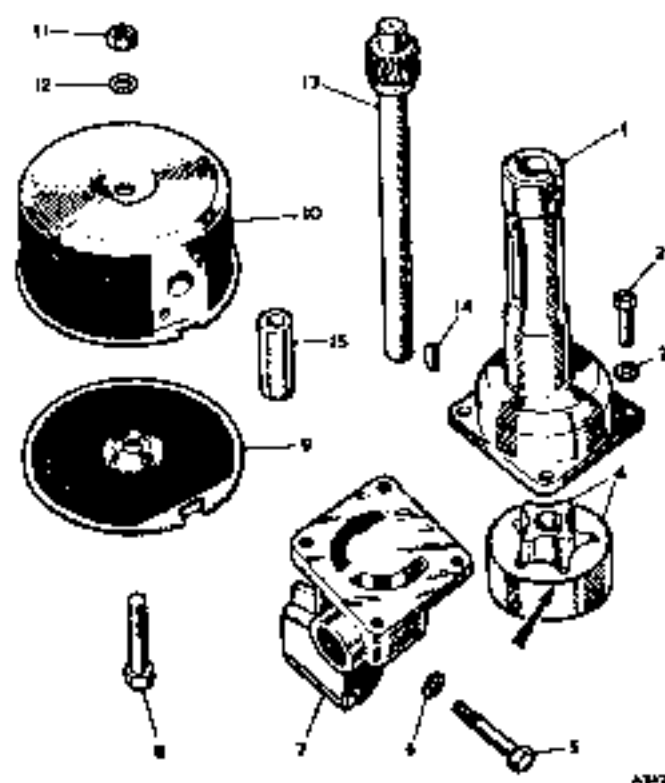

Fig. Aa.3
- (1) Lubricate all parts with clean engine oil.
- (2) Ensure that the outer rotor is installed in the pump body with its chamfered end (see Fig. Aa.3) at the driving gear end of the rotor pocket in the pump body.
- (3) After reassembling check the pump for freedom of action.